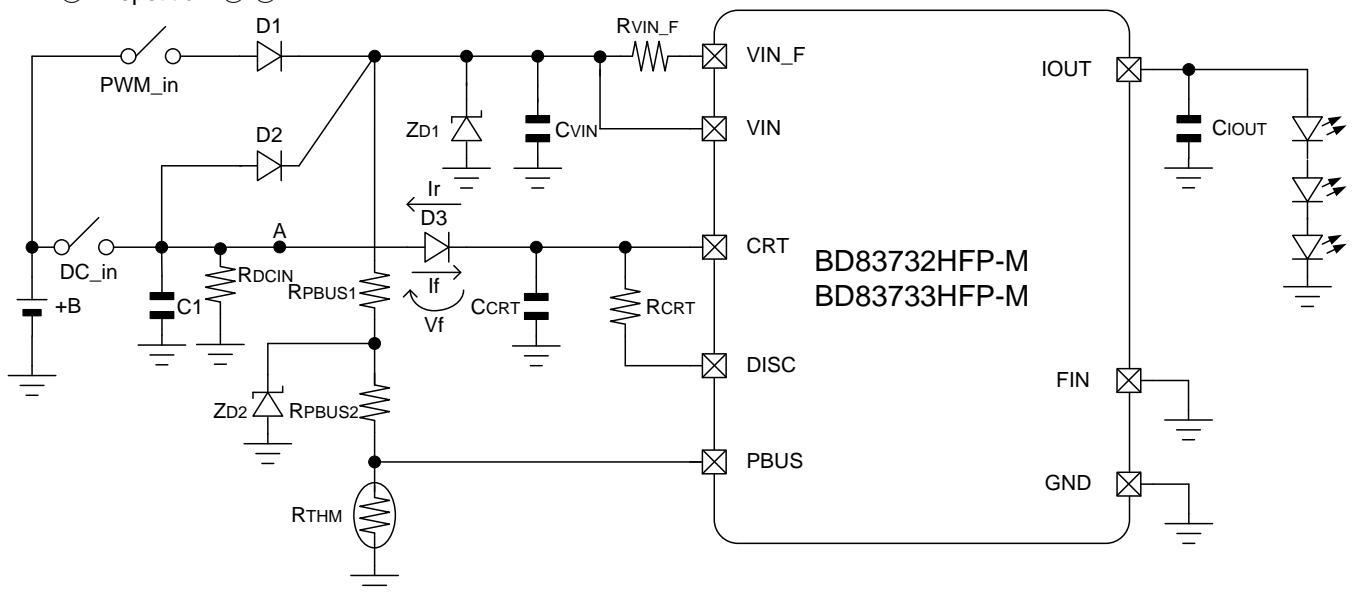

Figure 16. About the mechanism of deviation of CRT start-up / fall time due to the reverse connection prevention diode
In case you apply voltage the CRT over the reverse protection diode (D3) as the figure below (Figure 16), there is a possibility that the CRT rise time and fall time will deviate from the settings due to reverse current of diode (D3) affecting charge and discharge current to capacitance(C3). Reverse current I_r is getting high value with high temperatures, so the diode recommended by ROHM or a diode with reverse current characteristics below max $1\mu\text{A}$ needs to be considered. Besides, since reverse current causes also in the recommended diode, **a resistor of about $1\text{k}\Omega$ needs to be connected between the A-point and GND**, so that voltage in the A-point doesn't rise.
- ① During the PWM dimming operation mode, the A-point on Figure.16 becomes Hi-Z
- ② Reverse current I_r of D2 and D3 goes to the A-point